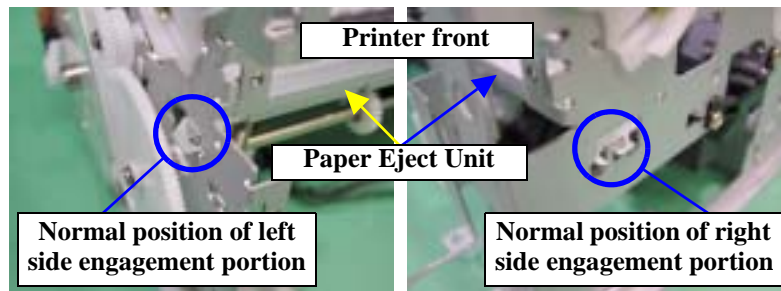

Figure 4-50. Normal Positions of Paper Eject Unit Engagement Portions
- When reinstalling the Paper Eject Unit, make sure that the engagement portions with the Left and Right Frames are fitted properly. Refer to Figure 4-50, "Normal Positions of Paper Eject Unit Engagement Portions".